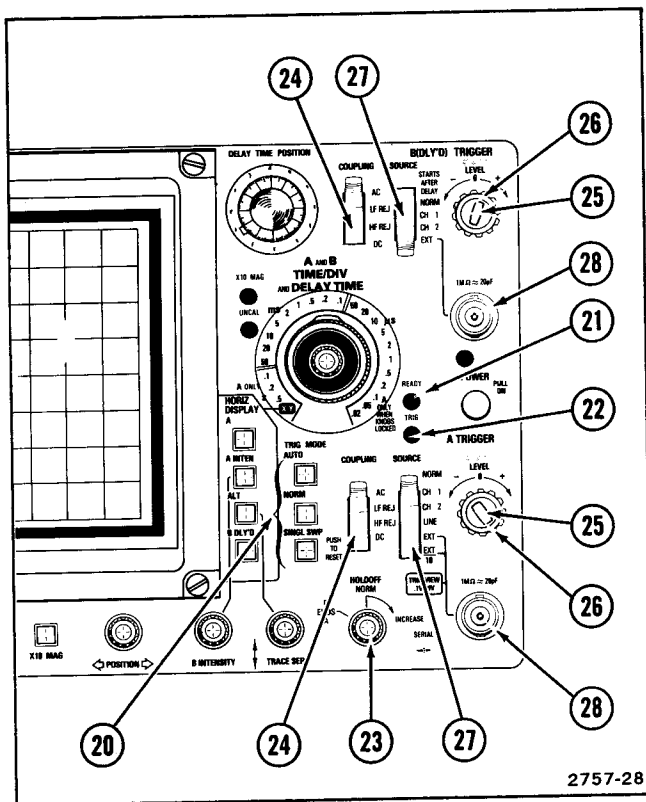

Figure 2-5. Trigger controls, connectors, and indicators.
Refer to Figure 2-5 for location of items 20 through 28.
- ①⑥ **CALIBRATOR Loop**—A combination 30-milliamp current loop and 0.3-volt square-wave voltage output (approximately 1 kilohertz) that permits the operator to compensate voltage probes and to check oscilloscope vertical operation. It is not intended to verify precise time-base calibration.
- ①⑦ **SCALE ILLUM Control**—Adjusts graticule illumination.
- ①⑧ **ASTIG Control**—Screwdriver control used in conjunction with the FOCUS control to obtain a well-defined display. It does not require readjustment during normal use of the instrument.
- ①⑨ **TRACE ROTATION Control**—Screwdriver control used to align trace with the horizontal graticule lines.
- ②① **TRIG MODE Switches**—Three push button switches determine the mode of trigger operation for the A Sweep.